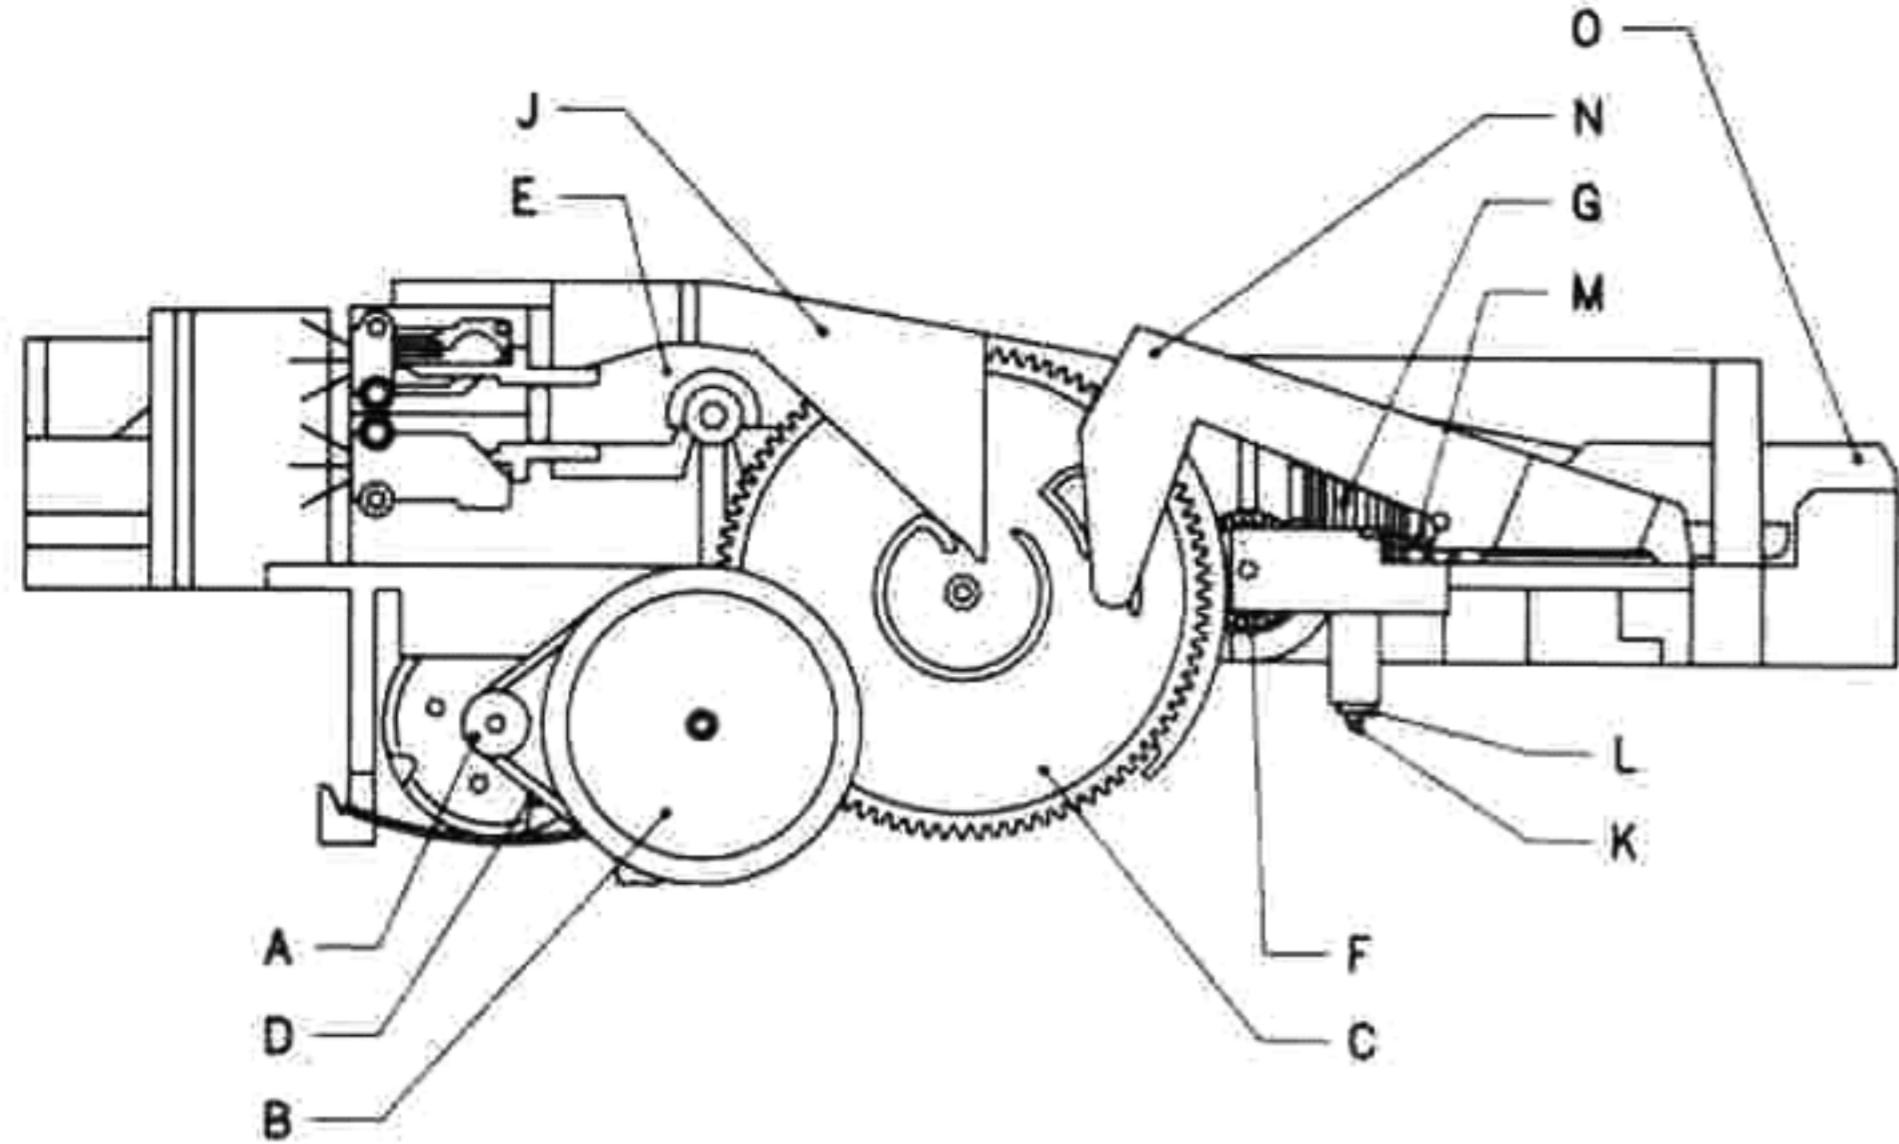
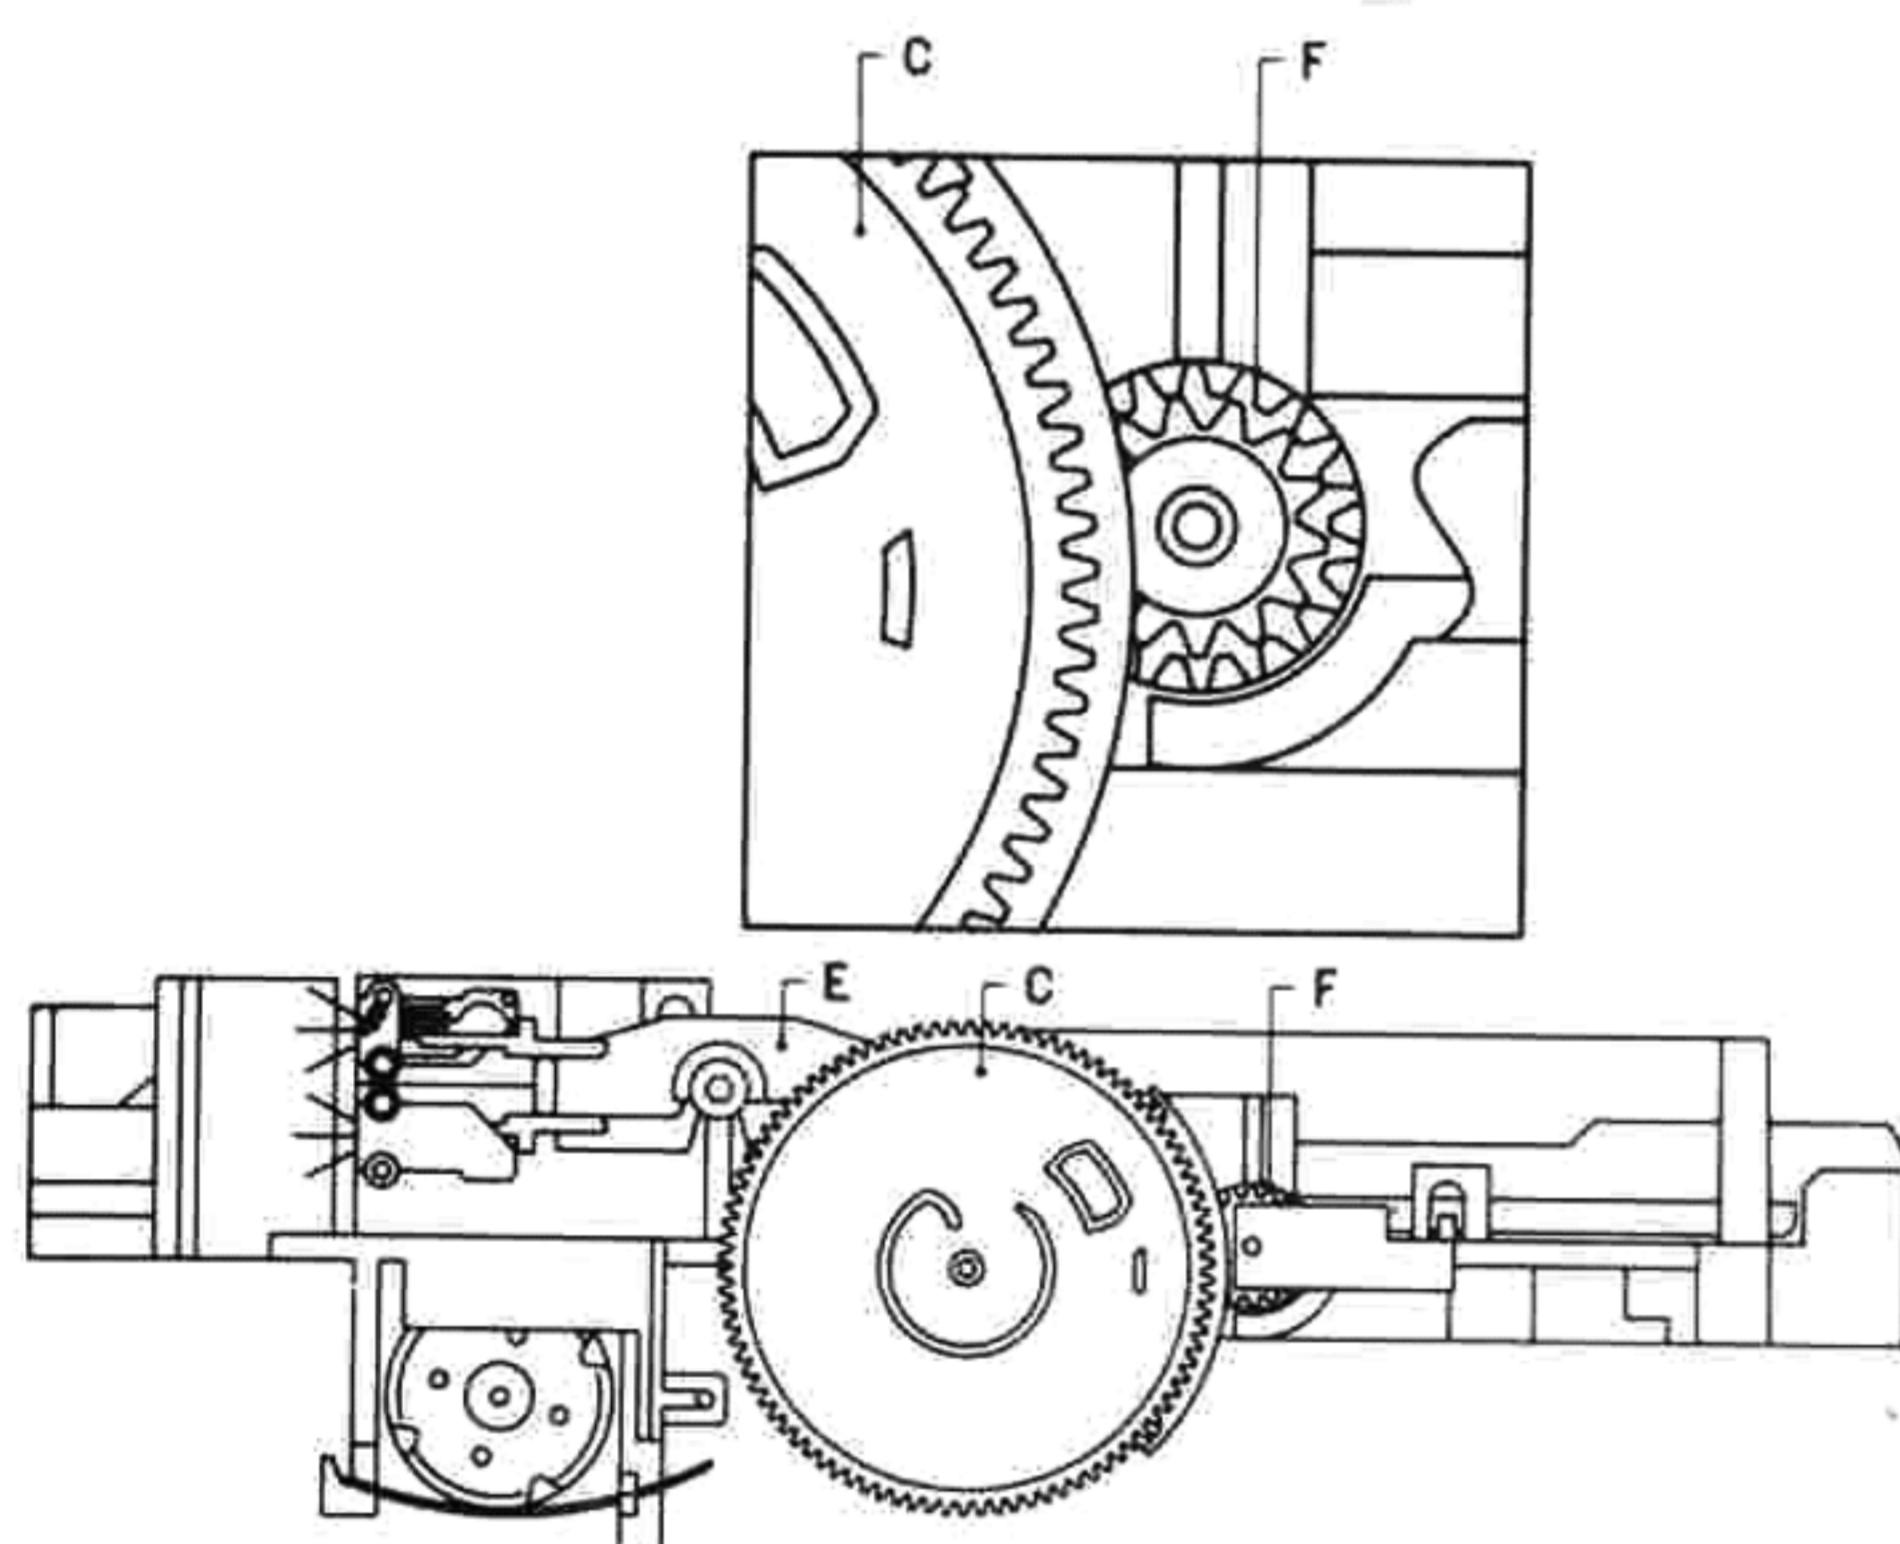

Fig. 1
Fig. 2
- Ensure that the aperture in gearwheel F is vertical (see Fig. 1) and apply can wheel C in the way described in Fig. 2.